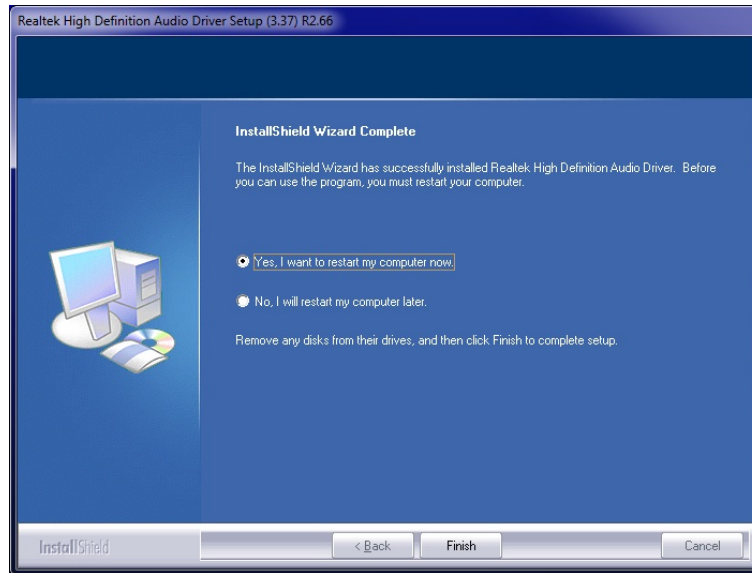

Figure 6-26: Restart the Computer
Step 8: After the driver installation process is complete, a confirmation screen appears (**Figure 6-26**).